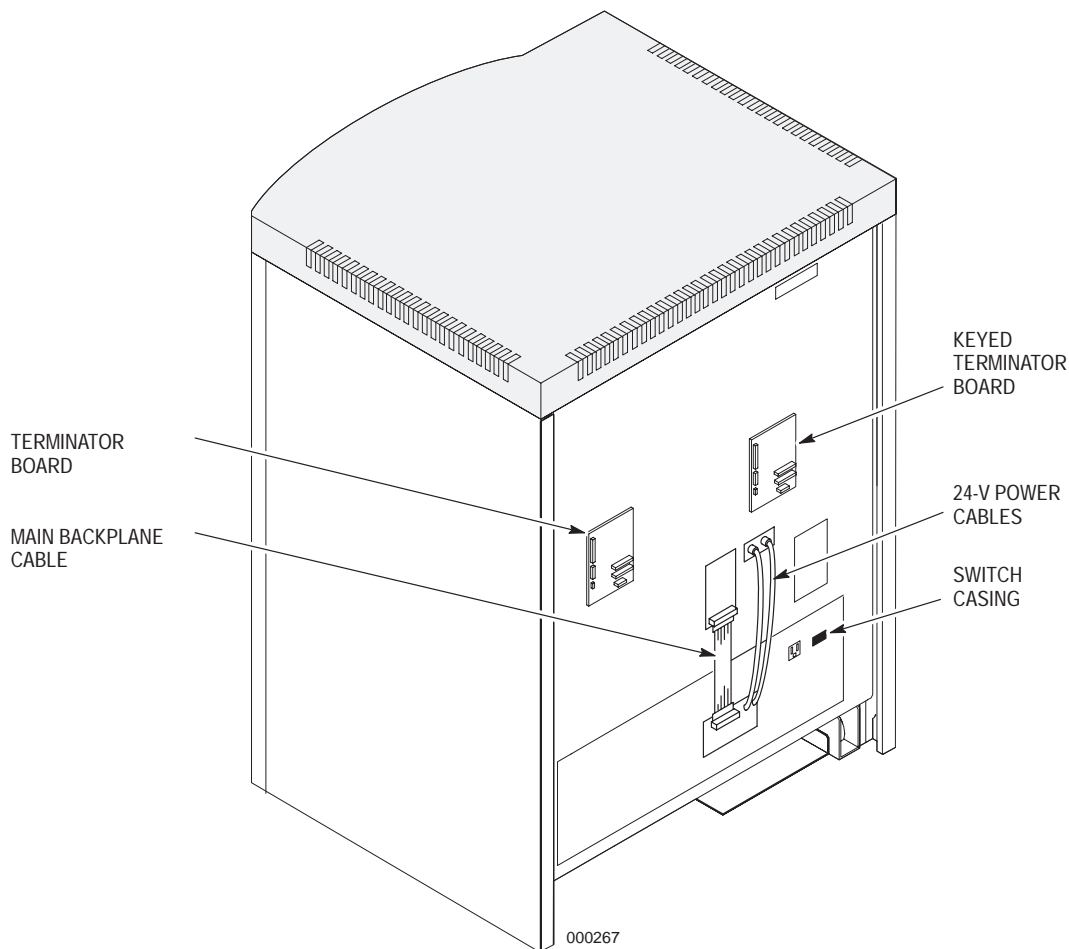

Figure 11-13. Power Connections to the Main Backplane.
5. When the **ENTER BOOT COMMAND:** prompt appears, turn off the power to the server by switching the main-power circuit breaker on the back of the power-distribution tray to the OFF position (0).
8. From the rear of the cabinet, loosen the single, slotted, captive screw that secures the drive-bus-terminator boards to the backplane. The locations of the terminator boards are shown in Figure 11-13.
11. Use a #2 Phillips screwdriver to remove the 24-volt power cables from the main backplane connections, as shown in Figure 11-13. Label the cables so that you can reinstall them in the correct locations.
12. Disconnect the main-backplane power cable from the connector on the main backplane, as shown in Figure 11-13.
25. From the rear of the cabinet, use a #2 Phillips screwdriver to connect the 24-volt power and signal cables to the main-backplane connections (Figure 11-13).